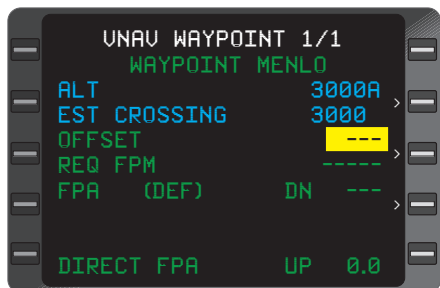

Figure 3-123
*NOTE: On **NAVIGATION** Pages, only the **TO** Waypoint can be selected. If the waypoint is selected from either the NAV, or Direct pages, Direct FPA information pages will be displayed on the last line of the screen. (Figure 3-123)*
5. **ENT Key** - DEPRESS. Cursor moves to **OFFSET** field. (Figure 3-123)